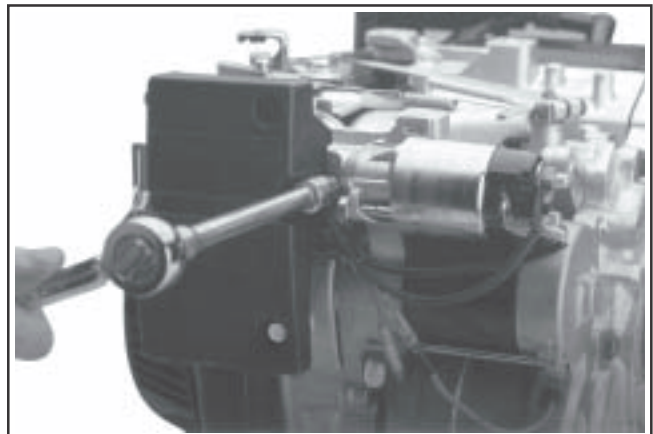

Figure 9-28. Removing Control Panel Screws.
3. Remove the two screws securing the control panel and mounting bracket for the electrical components. See Figure 9-28.